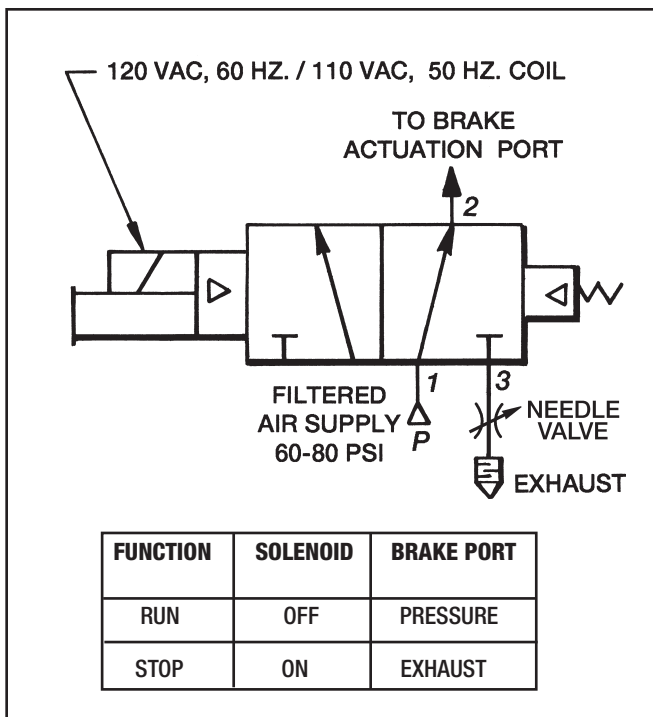

Figure 3.8 - Control Valve Schematic
16. Connect electrical and pneumatic lines to the control valve. (See Figure 3.8 for Control Valve Schematic.)